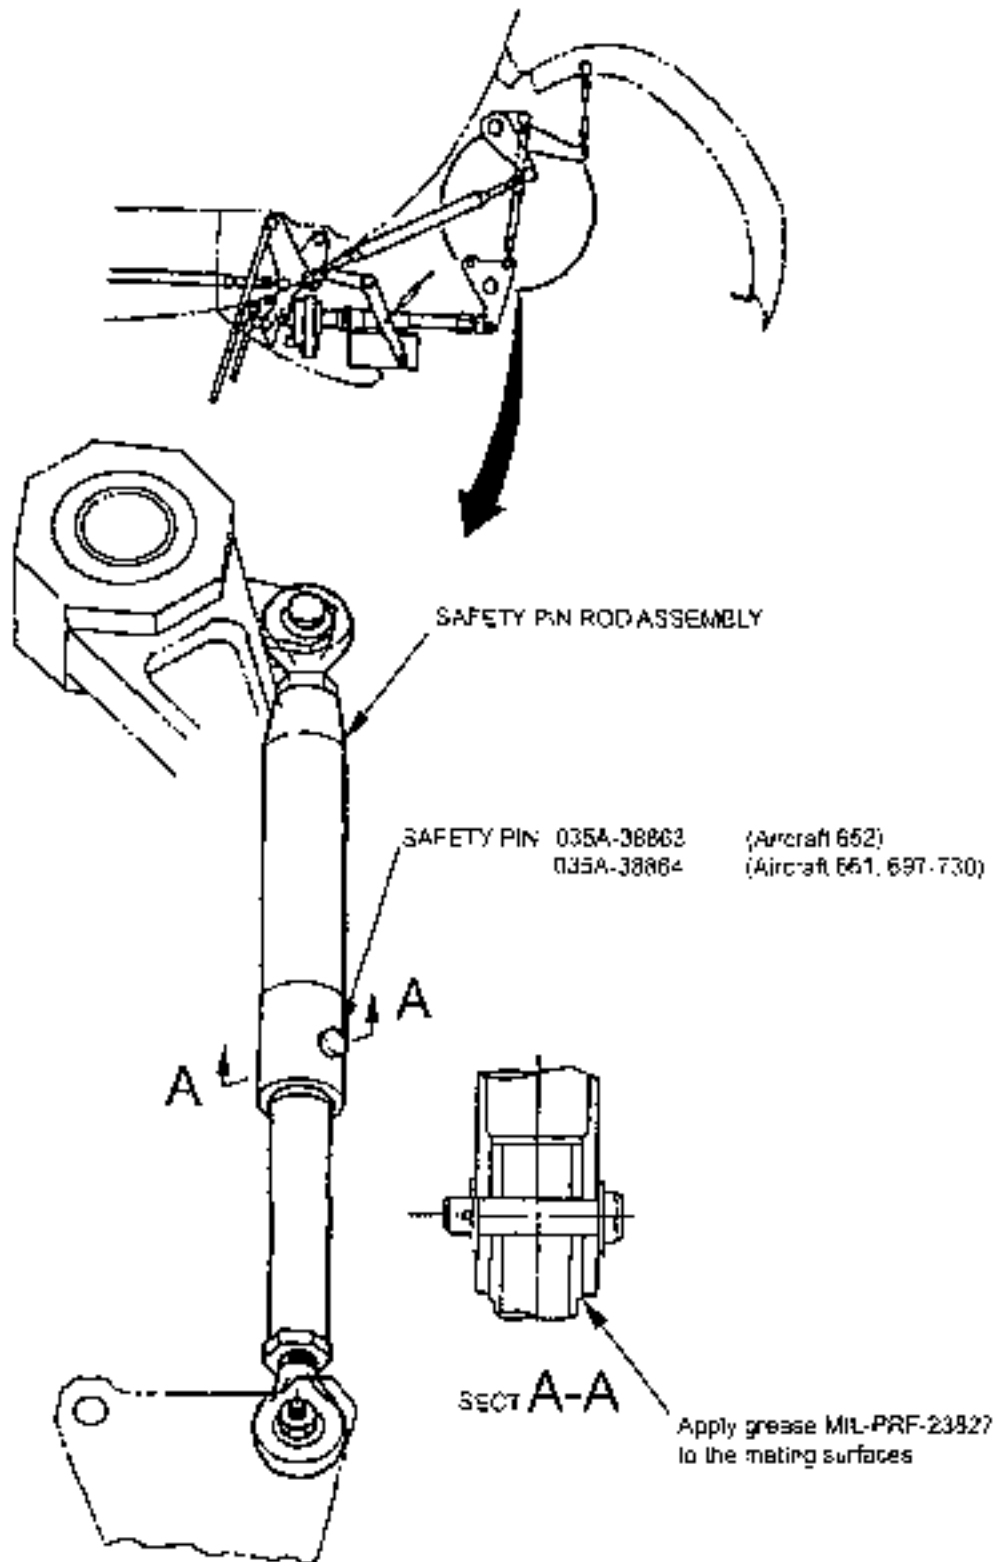

Fig 4-40A Installation of safety pin rod assembly
CHANGE : Change Fig 4-39 and add the paragraph 3.9.3A and Fig 4-40A as follows.
- (5) Clean and lubricate the mating surfaces of jointed area between upper and lower rods with MIL-PRF-23827 grease.
- (6) Reassemble the safety pin rod assembly, install the safety pin and washer and secure with new collar pin per Figure 4-40A.
- (7) Reconnect the safety pin rod assembly making sure that the large diameter rod (Outer Rod) is placed in the upper position as shown in Figure 4-40A.